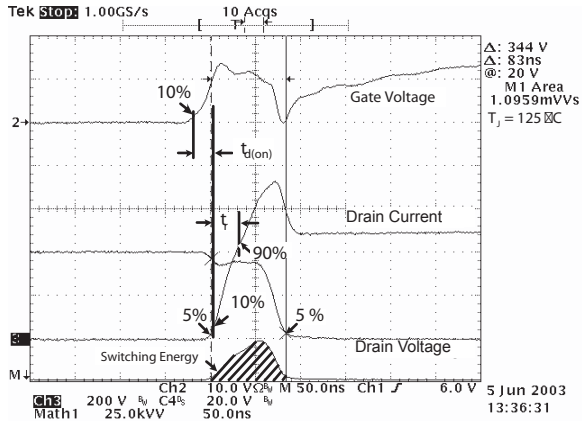

Figure 18, Turn-on Switching Waveforms and Definitions
① Repetitive Rating: Pulse width limited by maximum junction temperature
② Pulse Test: Pulse width < 380 μs, Duty Cycle < 2%
③ See MIL-STD-750 Method 3471
④ Starting TJ = +25°C, L = 36.0mH, RG = 25Ω, Peak IL = 10A
⑤ dvi/dt numbers reflect the limitations of the test circuit rather than the device itself. IS = -ID 47A, diS/dt = 700A/μs, VR = VDSS, TJ = 150°C
⑥ Eon includes diode reverse recovery. See figures 18, 20.
⑦ Repetitive avalanche causes additional power losses that can be calculated as PAV = EAR \* f